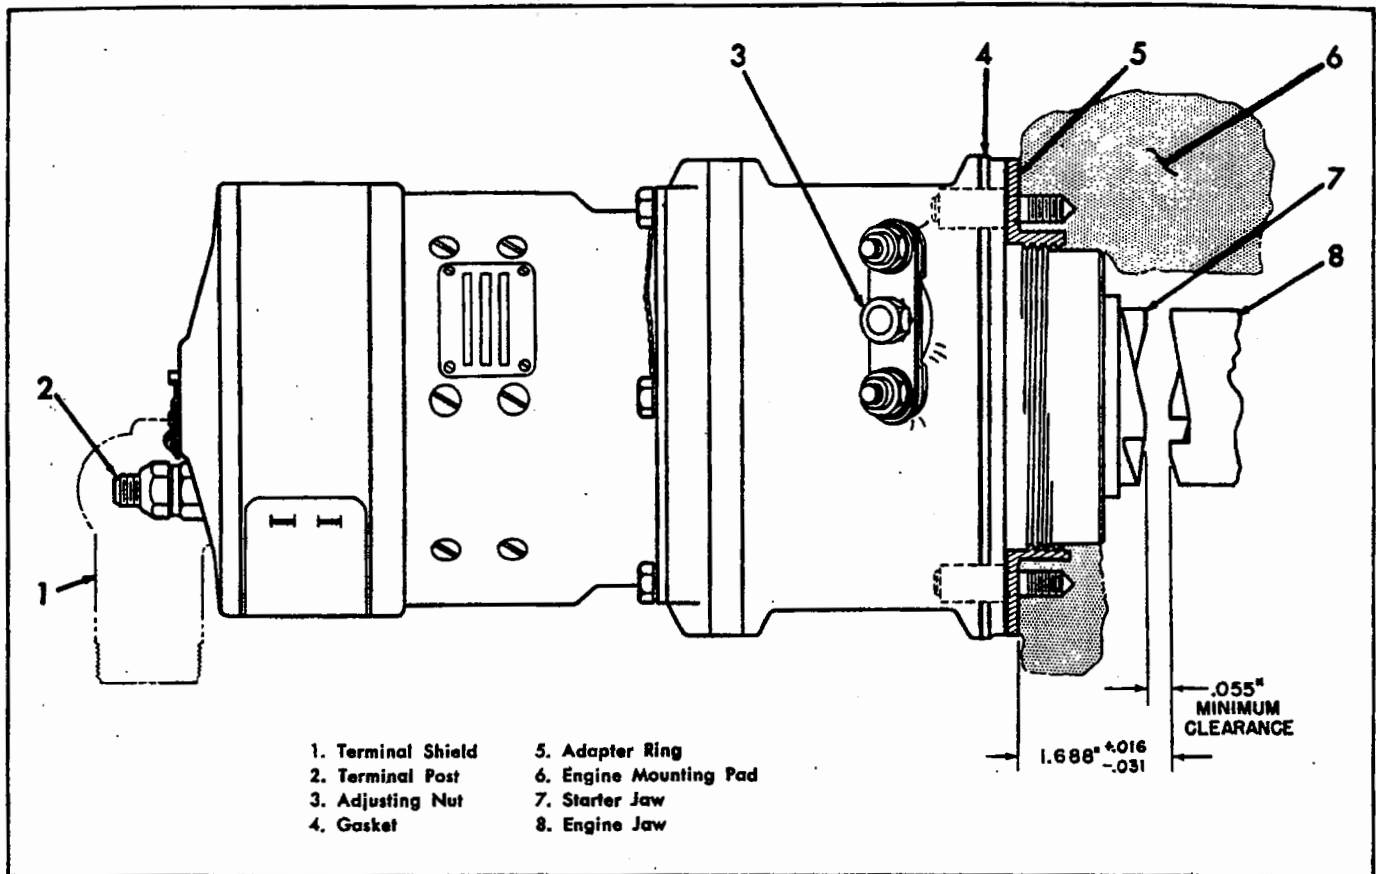

Figure 4-79. Engine Starting Motor.
4-656. DESCRIPTION. (See figure 4-79.) The Jack and Heintz starter, (their model number JH6PKR3), AN4116-R5 is an electric, direct cranking type starter. It is mounted to the forward face of the engine accessory drive housing, on the left hand side. Access to the starter is obtained by removing the upper engine accessory section cowling panel. Current is supplied to the starter from the airplane battery, or an external power source, if used, through the electric conduit connector on the starter motor case. The starter is grounded to the upper left hand engine mount member. See paragraph 5-67 for wiring details.
b. Check the depth from the face of the engine mounting pad, less the gasket and adapter, to the tip of the engine jaw teeth. The depth should be 1.688 inches (plus .016, minus .031 inch) to insure that there will be at least .055 inch clearance between the engine and starter jaws, when the starter jaw is in its fully retracted position; See figure 4-79. Measure the depth of the starter jaw from the face of the starter mounting adapter. This distance should be 1.625 inches. Gasket thicknesses should be determined so that the clearance between the engine and starter jaws is at least 1/16 inch.